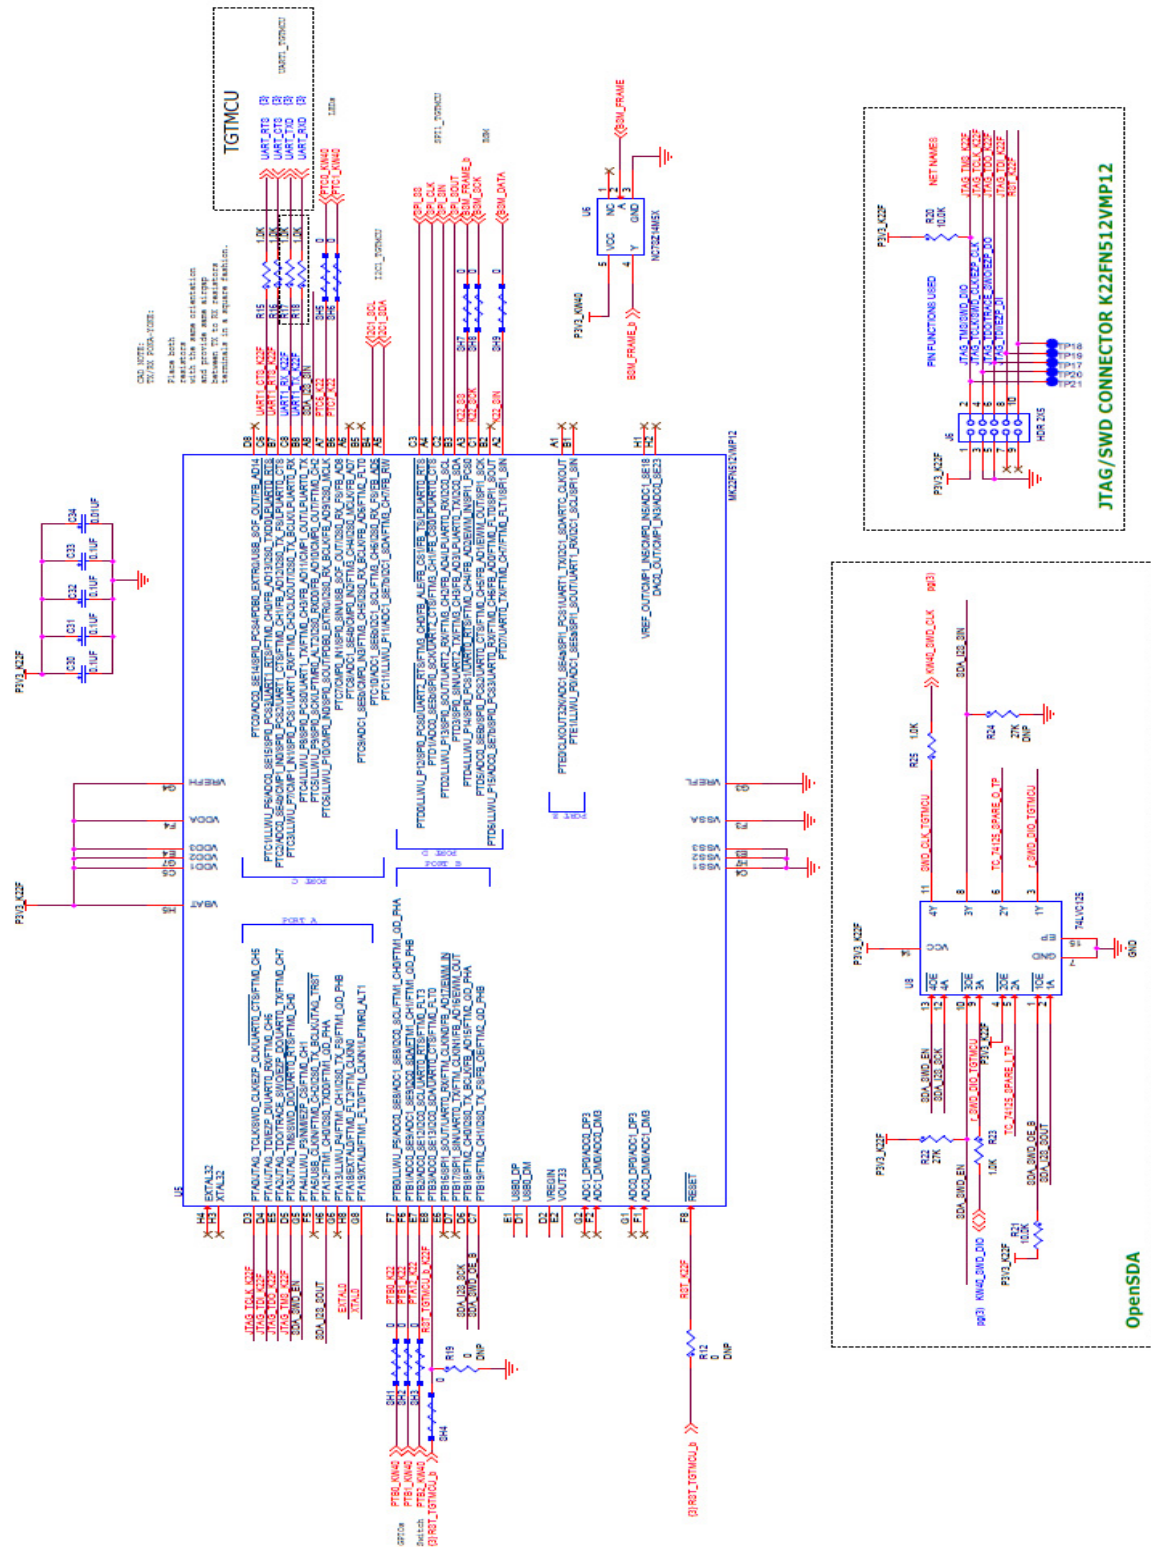

Figure 11. USB-KW40Z OpenSDA circuitry
- The USB-KW40Z includes an OpenSDA circuitry based on the MK22FN512, that includes all the necessary components to enable communication and debugging, it also provides power output to all MKW40Z160 peripherals. Figure 11 shows the OpenSDA circuitry based on the MK22FN512 MCU, and all the necessary connections to interface with MKW40Z160.